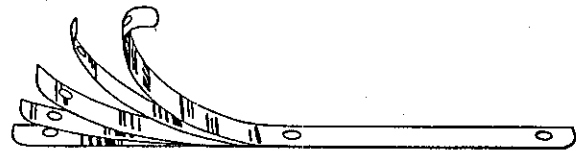

Fig. 9
The ram, the knee and the cross rail slide bearings are provided with shims and gibs for making adjustments when necessary. The shims are .010" thick and are made up of (4) .002" and (2) .001" leaves, held together with a light film of solder for convenience in handling, and can be easily separated with a knife blade. (See Fig. 9.) The side with the .001" laminations is colored gray.